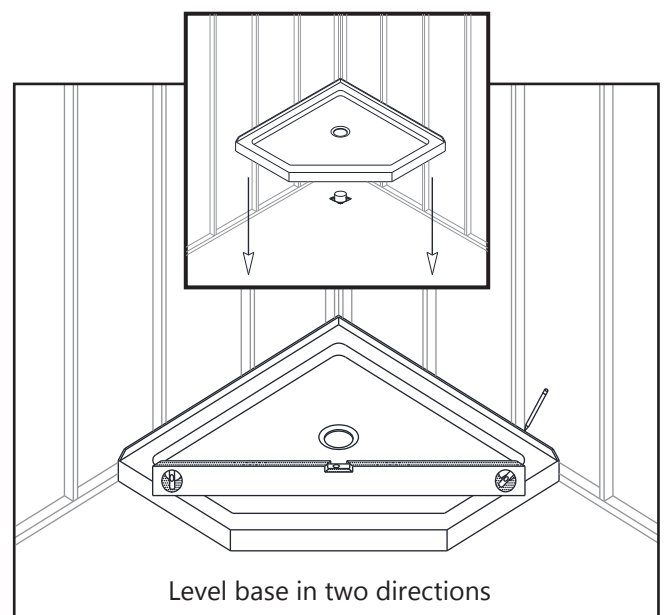

Fig.2
- If the subfloor is not flat and level, use leveling compound or mortar bed to ensure that the base is level (shown in Step 5).(Fig 2)